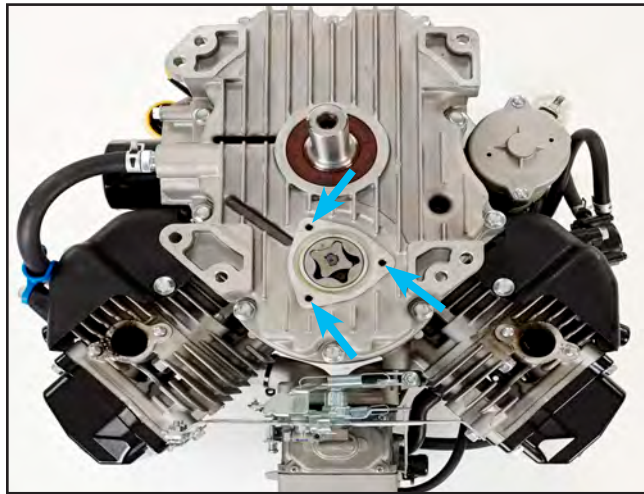

Figure 33
1. Remove the three bolts and cover from the sump cover (Figure 33).